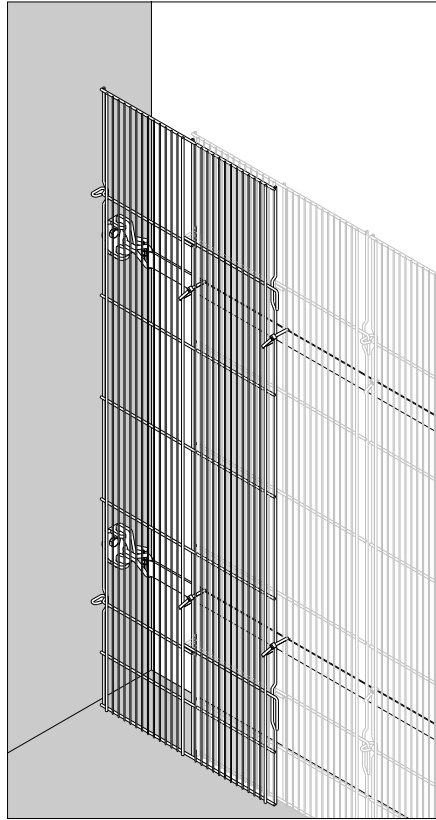

Fig. A2.11b
2. Lean last Fold Mesh PFR against the other wall side and fix overlapping by means of Cable Ties PCT. (Fig. A2.11b + A2.11c)